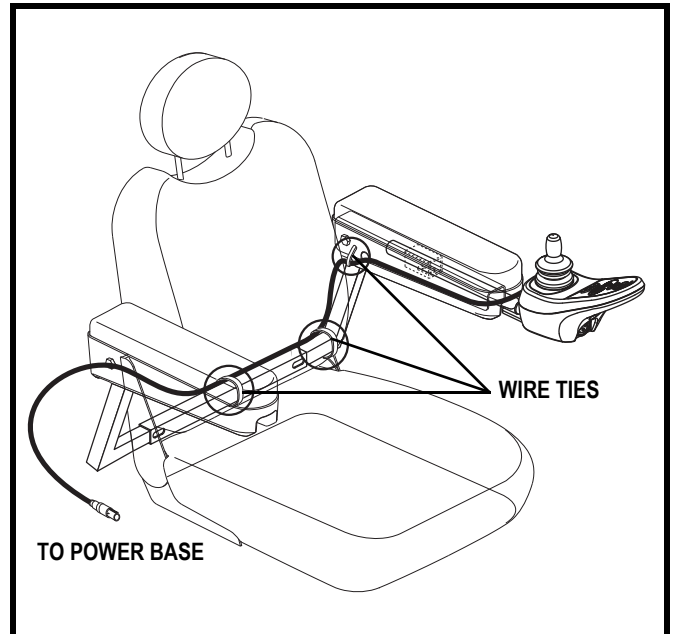

Figure 13. Controller Harness Routing on a Contour Seat
6. Secure the controller harness to the armrest receiver with wire ties. See figure 13.